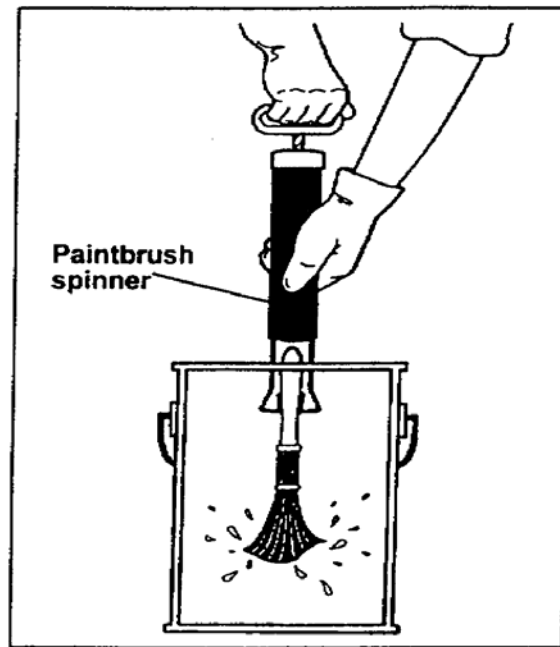

Figure 3-32. Spinning the paintbrush
(5) Use a spinner, if available, to get the last dregs of paint and thinner out of the brush. To do this, place the brush handle into the tangs of the spinner (Figure 3-32, page 3-26). Hold the spinner in the paint bucket or a trash can and pump the spinner until the brush is dry. If you do not have a spinner, spin the brush with your hands inside the paint bucket or a trash can.